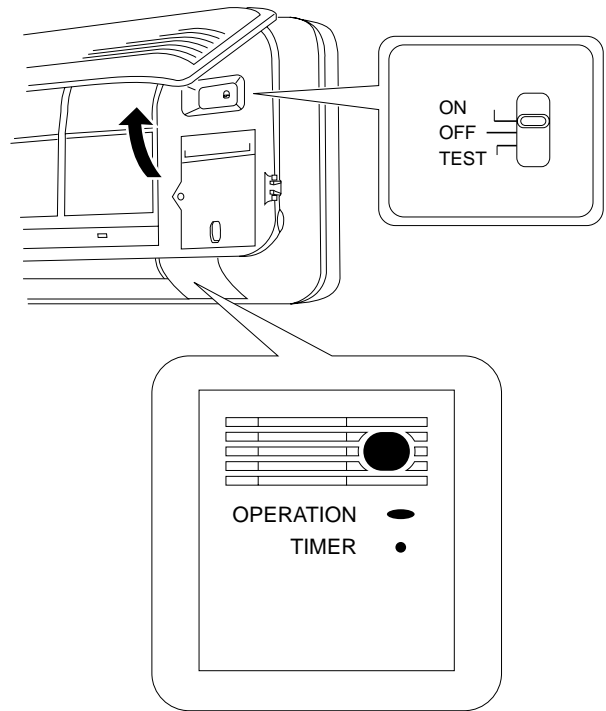

Fig. 54a
- (1) Switch on the power source.
- (2) Press the ON/OFF button on the remote control unit once.
- (3) Set the operation selector switch of the indoor unit to the TEST position. This starts the fan, producing uncooled forced air. (Figs. 54a and 54b)
- (4) After 3 minutes, the system shifts into cooling operation, and cool air will start to be felt. Cooling operation during with the switch at the TEST position is unaffected by the room temperature.
- (5) After stopping the test run, turn the operation selector switch of indoor unit to the OFF position once, then move to ON position.
- (6) Press the ON/OFF button on the remote control unit to stop the air conditioner.